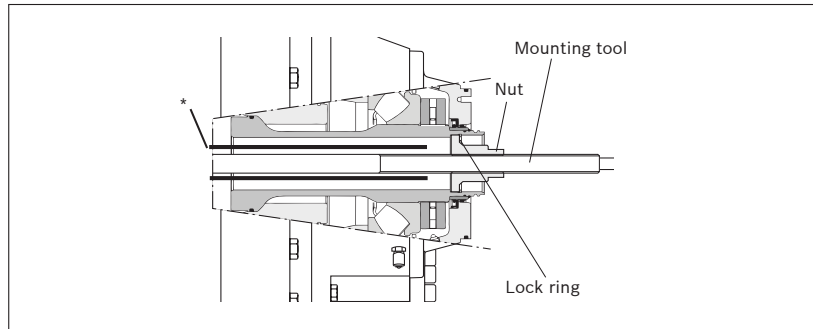

Fig. 3.23: Removal of MB 1150-2400
- Screw in the nut of the tool until the lock ring can be fitted outside the nut; see Fig. 3.23.
- *If the motor is hard to remove from the shaft, put a tube over the mounting tool to avoid bending of it. Inner diameter=35 (1,4), MB1150/1600 L=700 (27,5), MB2400 L=1000 (39), MB3200 L=1200 (47), MB4000 L=1500 (59).